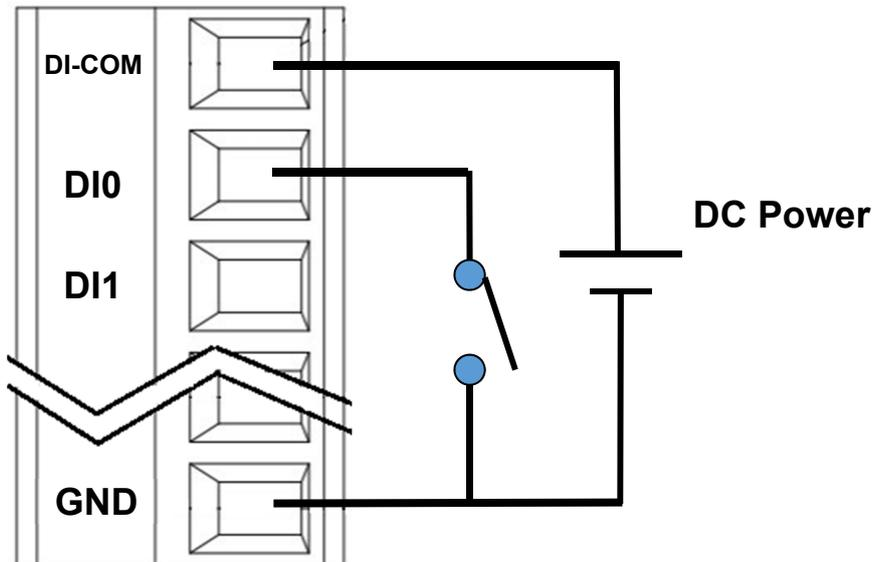

Figure 4.13 - Wiring of DI (Digital Input) Dry Contact
Figure 4.13 shows an example of digital input (DI) dry contact in which the digital input 0 (DI0) channel is controlled by a switch that is wired to the ground (GND) pin of the DI port. An external DC power is supplied this external circuit of switch via the wiring of DI-COM pin (positive signal) and the GND pin (ground signal).